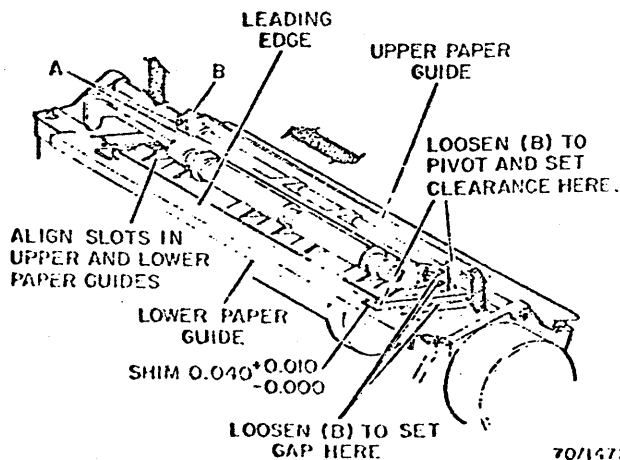

Fig. 3-116. Upper Paper Guide
1. Loosen screws A to set gap as shown in Fig. 3-116.